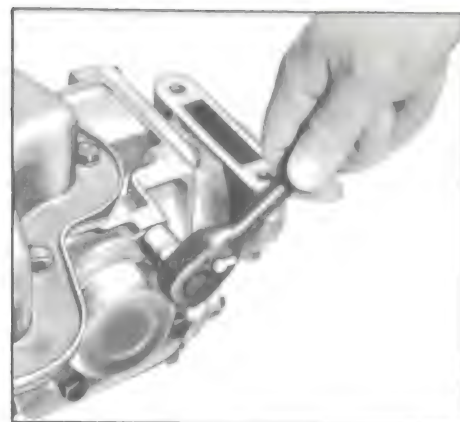

Figure 5-730
2. Attach the governor cover and gasket with four (4) attaching bolts. Torque bolts to 15-20 ft. lbs. See Figure 5-730.